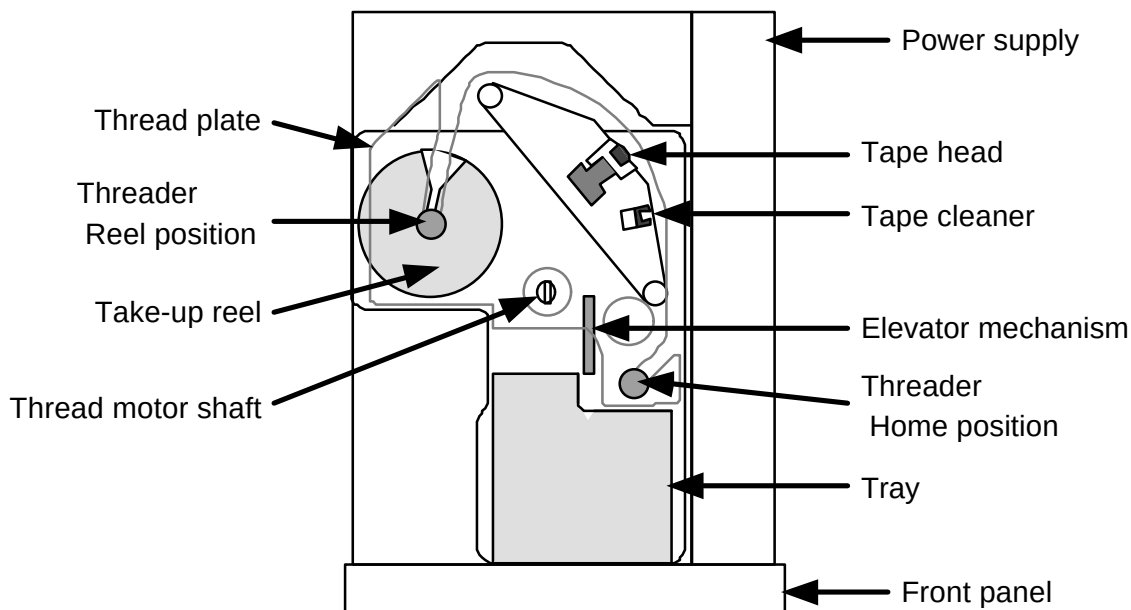

Figure 6-5 Tape Path
The operation differs according to the tape condition. Confirm the location of the tape on the tape path, from the threader home position, and tape head to threader reel position, referring to Figure 6-5.
- 5) This operation is completed when the entire tape is rewound and the take-up reel is stopped rotating at the position where the leader block (threader) can be pulled out. (Refer to Figure 6-5.) If the tape has fallen down, perform operations from section 6.5.6 again.